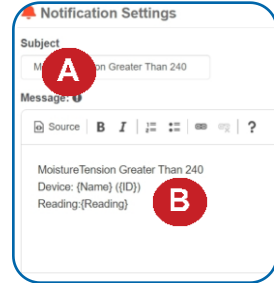

Figure 30
- A.** Input the subject for the notification. See Figure 30.
- B.** Customize the message body for the notification. See Figure 30.